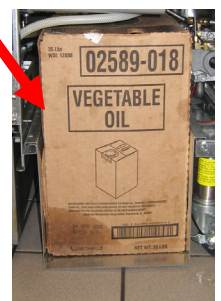

Figure 3
2. For 30lb fryers open the **FAR-RIGHT** door of the fryer or door with the oil reservoir (it may be third door from the left in 4 vat fryers or larger) (see Figure 3).
3. Remove the JIB/BIB to access the FIB box (see Figure 3). Note: The appearance of the FIB box may differ depending on date of manufacture.